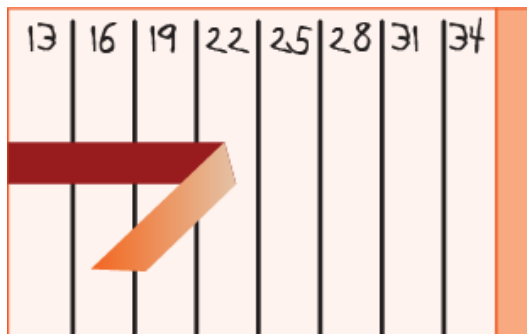

Figure 11
6. Before processing coversheet and stripping tape must be removed (Figure 11).